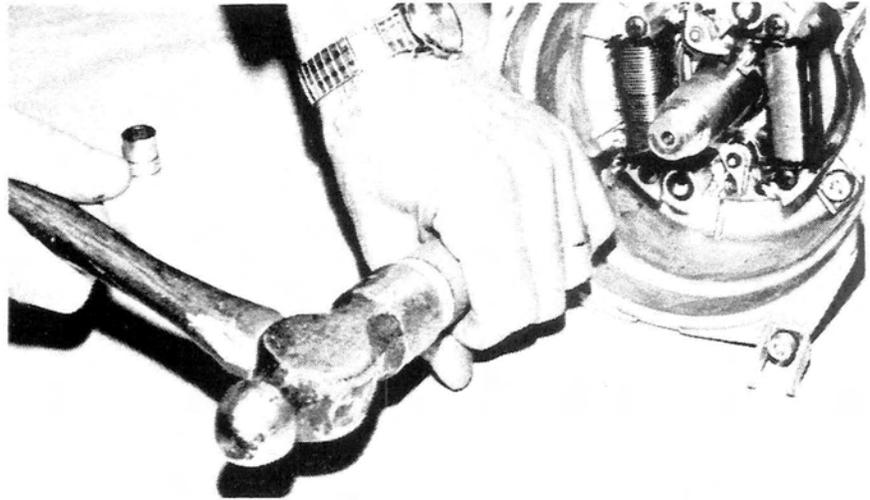
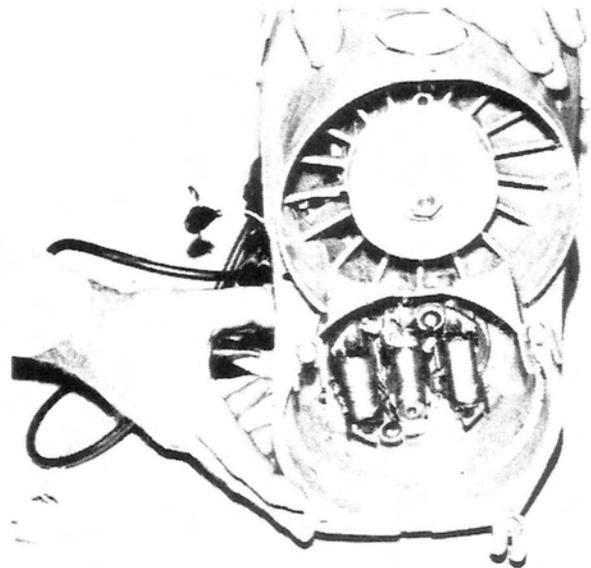

FIG. 1-16
FIG. 1-17
Remove screw holding spark plug wire bracket to fan housing. With a socket type 5 mm Allen wrench and impact driver, remove the four (4) mounting bolts holding fan housing to crankcase. (See Fig. 1-16). Remove fan housing from crankcase (See Fig. 1-17).